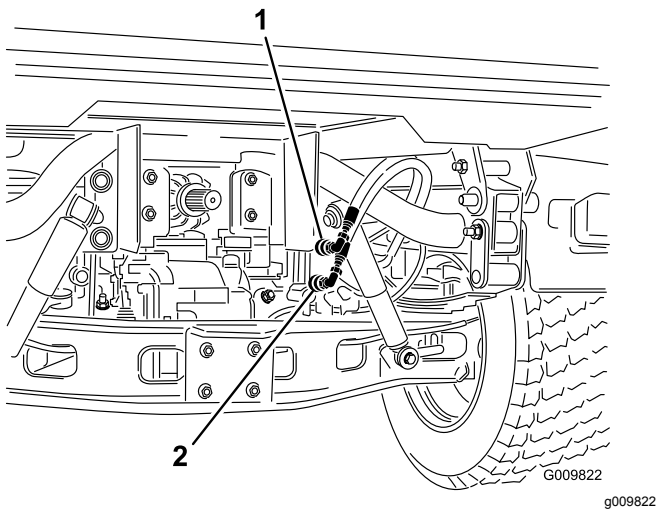

Figure 16
- On vehicles with serial numbers 240000001 and up, disconnect the 2 lift cylinder hoses from the hoses secured to the coupler bracket (Figure 16). Insert the caps into the cylinder hose quick couplers.